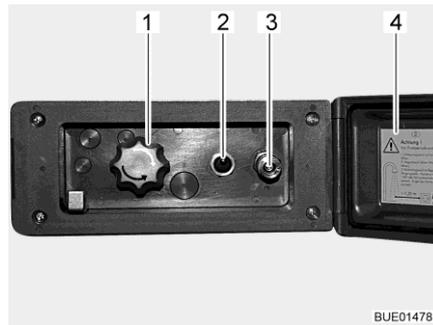

Fig. 166 External shower connection point
- Unlock and open the cover (Fig. 166,4).
- Attach hose of the external shower to the quick closure (Fig. 166,3).
- Switch on the water pump using the switch (Fig. 166,2).
- Adjust the water temperature with the rotary knob (Fig. 166,1) as desired.
- Switch off the water pump using the switch (Fig. 166,2).
- Close the cover (Fig. 166,4) and lock with key.
- Turn knob (Fig. 166,1) to the central position.